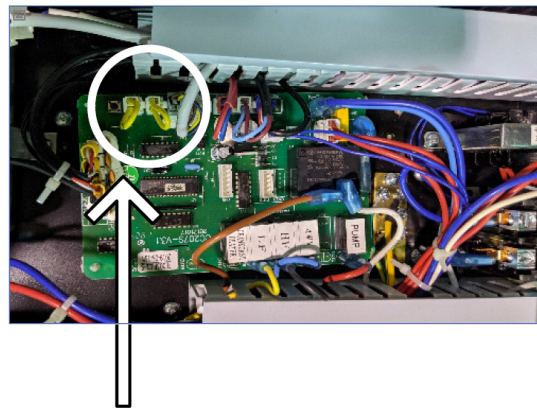

Figure 18. Automation Controller Cable Connection
4. Locate the connection for the **AUTOMATION CONTROLLER** terminals. See **Figure 18**.